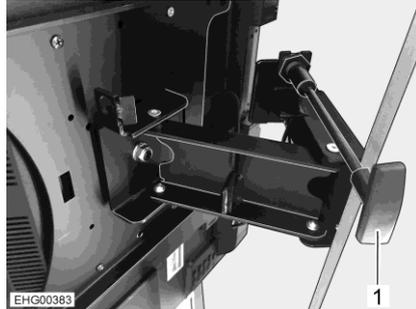

Fig. 75 Holder (one-piece jointed arm)
- Pull and hold handle (Fig. 75,1). The flat screen is unlocked.